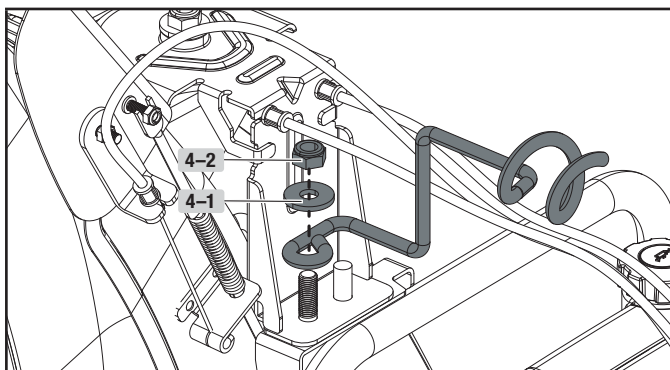

Figure 4
- Put the snow discharge chute cable wire form on the snow discharge support using the washer (4-1) and nut (4-2). Securely tighten the assembly (Fig. 4) using included tool or your own 16mm wrench. This will be the guide that channels all the cables over the engine from the chute area.